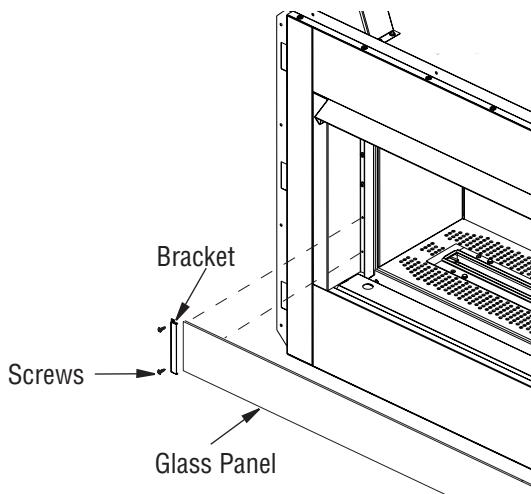

Figure 25a - Installing/Removing Glass Panel
NOTE: Barrier kit cat. no. F2882 is required when installing this kit. The glass panel assembly should be installed after the fireplace is completely framed and finished. The brackets are attached to the front side face of the fireplace using two screws as shown in Figure 25a. Position the glass panel in the bracket so that it is securely in place.
3. Remove glass panel if installed (see Figure 25a).